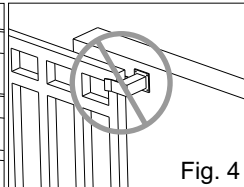

Fig. 4
- that the upper guides are not fixed (fig. 4) but furnished with rollers